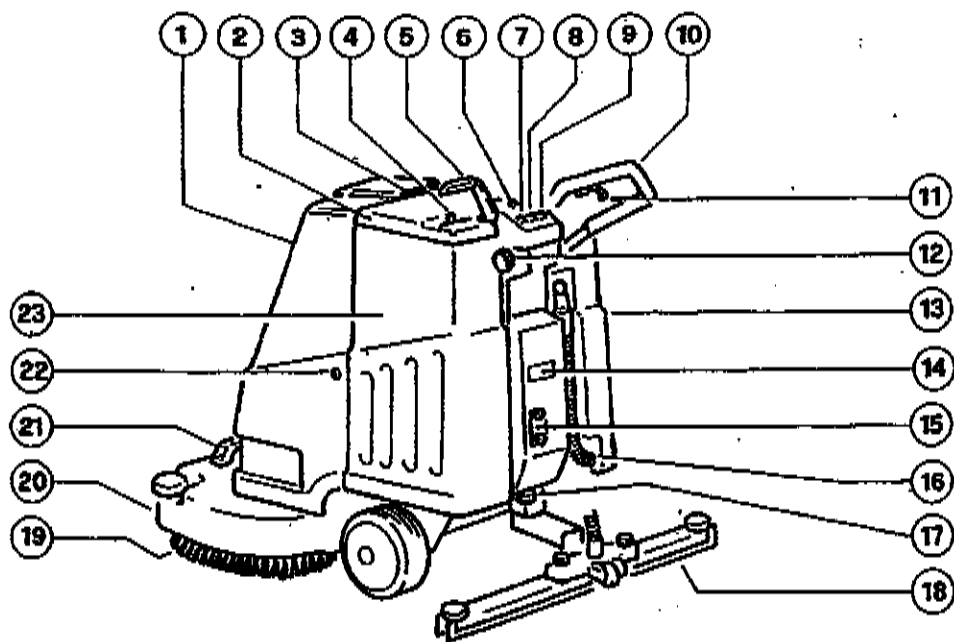

Fig. 2
This operating and service manual applies to models of single-brush floor cleaners. The machine identification plate is affixed to the electrical box in position N°. 14, fig. 2.
The main parts of the machine are as follows (reference fig. 2):
- remove the squeegee (fig. 2, N°. 18) and brush (fig. 2, N°. 19) from their packaging;
- operate the squeegee lifting lever (fig. 2, N°. 5) and remove the tank cover (fig. 2, N°. 2), eliminating the sheet protecting the control panel;
- take out the envelope inside the dirty water tank (fig. 2, N°. 13) and the one attached to the handgrip (fig. 2, N°. 10) and check the contents:
- 2 knobs (fig. 2, N°. 12) for fixing the handgrip (fig. 2, N°. 10);
- take the two knobs out of the second envelope, raise the handgrip (fig. 2, N°. 10) until the two threaded holes correspond to two of the four slots in the upright and secure, tightening the knobs from the outside;
- remove the bonnet (only for the battery-operated model, fig. 2, N°. 1), holding it by means of the grip (fig. 2, N°. 3) and lifting it up;
- raise the machine by means of the front handle (fig. 2, N°. 21) and handgrip (fig. 2, N°. 10) and remove it from the pallet;
The squeegee (fig. 2, N°. 18) is the prime drying agent. To fit it on the machine, stand behind the handgrip with the squeegee blades facing down and the wheel (fig. 4, N°. 50) in the position shown in figure 4. Check that the squeegee support (fig. 4, N°. 47) is raised (if not, raise it by pulling back the squeegee lever fig. 2, N°. 5), loosen the two knobs (fig. 4, N°. 48) in the middle of the squeegee and slide it into the support. Secure the squeegee by tightening the two knobs.
The rating plate (fig. 2, N°. 14) gives the electrical characteristics of the machine. Ensure that the frequency and power correspond to those of the power distribution system. As regards voltage, the models with rating plate indicating 230 V can be used for voltages of 220, 230 or 240 V. The same applies to the models with 115 V rating: they can be used at 110, 115 and 120 V. The frequency specified on the plate must, however, always be identical to the mains frequency.
- if the bonnet (fig. 2, N°. 1) is fitted on the machine, remove it by gripping and lifting at the point shown in figure 2, N°. 3;